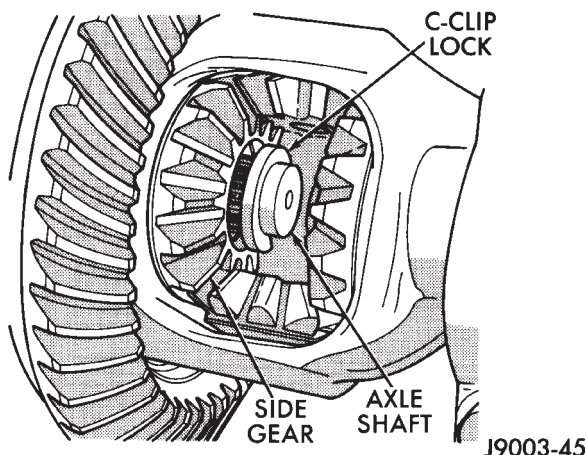

Fig. 24 Axle Shaft C-Clip Lock
- (7) Push axle shaft inward and remove axle shaft C-clip lock from the axle shaft (Fig. 24).